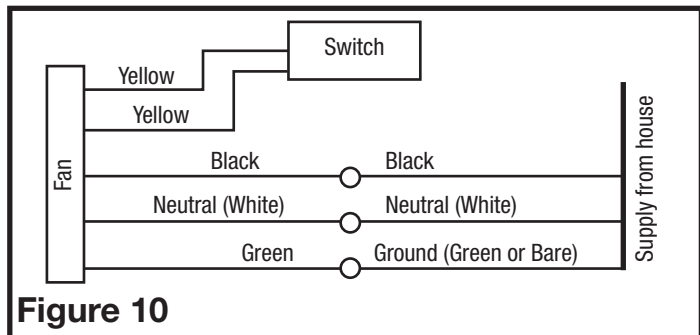

Figure 10
4. For two speed fans wired for continuous ventilation, connect the White wire of the fan to the White (Neutral) wire from the power source. Connect the ground wire from the house to the Green wire from the fan housing. Connect the Black wire of the fan to the Black wire (Hot) from the power source. The fan will operate on low speed continuously and boost to high upon a rise in humidity. Using a properly grounded standard duplex toggle switch, connect 1 yellow wire to each side of the switch. Closing the switch will change from normal to high speed. Using a properly grounded standard duplex toggle switch (such as Leviton 5224-2W, not included) connect the Black wire from the supply to one side of the top and bottom switch. A manual override switch (not included) can be used to provide a manual fan Off function (Figure 10).